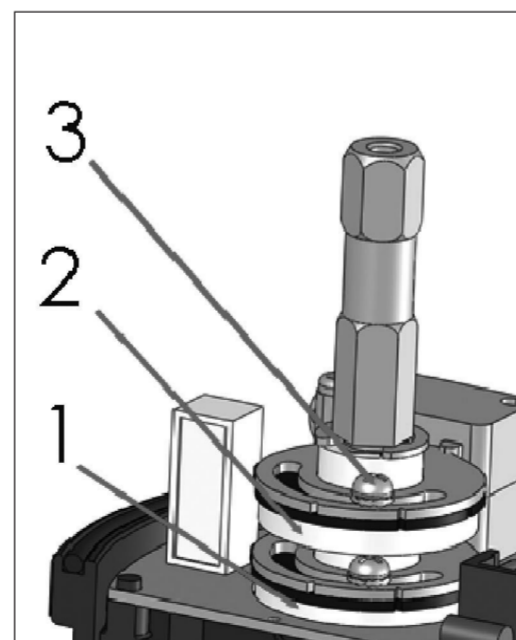

Fig. 6 Cams of the limit switch
4.6 Adjustment of actuator stroke (fig.6)